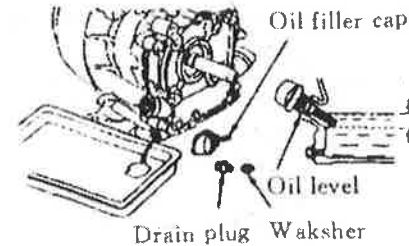

Fig. 15
- ① The item should be serviced more often than that in the schedule if used in dusty circumstances.
- ② The items should be done by your dealer unless you are specially trained and is well equipped with tools.
2. REPLACEMENT OF ENGINE OIL (Fig. 15).